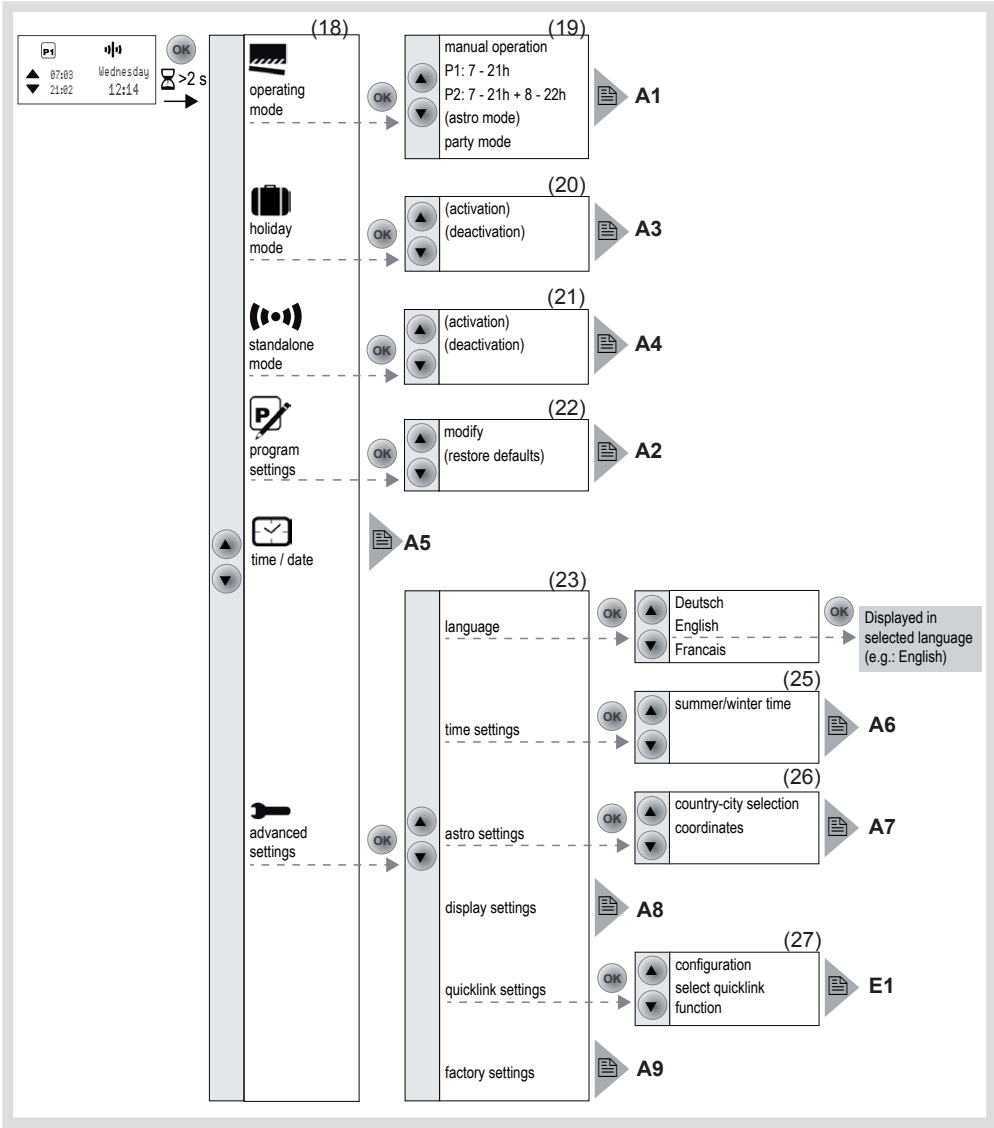

Figure 4: Menu overview
Figure 4 shows an overview of the functions in the menus/submenus: **A..** for the user and **E..** for the electrician refer to sections for additional information. Menu items in brackets are visible depending on the timer programming status.
The shutter timer shows the Programme selection submenu (Fig. 4, 19). The most recently selected programme is highlighted dark.
The options **modify** and **restore defaults** (Figure 4, 22) can be used for the preset factory programmes:
The shutter timer can be found in the submenu **holiday mode** (Fig. 4, 20).
The shutter timer can be found in the submenu **standalone mode** (Fig. 4, 21).
In the main menu (Fig. 4, 18), **time/date** is highlighted dark.
The submenu **time settings** is displayed (Fig. 4, 25).
- The submenu **astro settings** is displayed (Fig. 4, 26).
Yes: The screen switches to the basic display. The Astro programme is run and the symbol 📶 is displayed (Figure 2, 13). The Astro settings are saved and Astro is added to the programme selection (Fig. 4, 18).
- No:** The screen switches to the basic display. The Astro settings are saved and **astro mode** is added to the programme selection (Fig. 4, 18) but is not run.